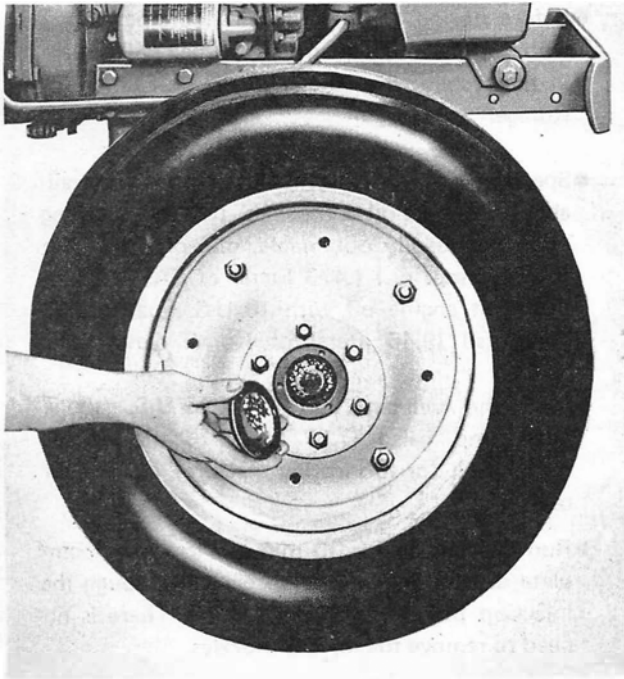

Figure 39
2. Jack up one of the front wheels and remove the hubcap, the cotter pin, and the nut. Figure 39. Remove the thrust washer, outer bearing, and then the complete wheel assembly.